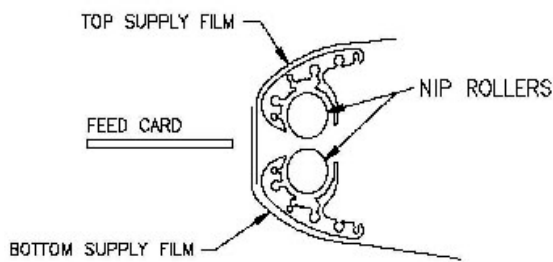

FIGURE 5
2. Pull 6"-12" of film from the top roll. Pass the film under the idler bar, heat shield and over the heat shoes. Make sure the shiny side of the film is against the shoes. See figure 5&6.
4. Pull 6"-12" of film from the bottom roll. Pass it under the lower idler bar. You can "drop-down" the lower idler bar to give you more clearance. After doing so, return the idler bar to its upper position for running the machine. Drape the film from the bottom roll over the film from the top roll. See figures 5&6.
6. Feed a piece of thin cardboard about 10" x 25" against the film so that it is centered between the two heat shoes. Push the cardboard and film into the laminating rollers. See figure 5. Watch cardboard pass through the back (pull) rollers to avoid a wrap-around.